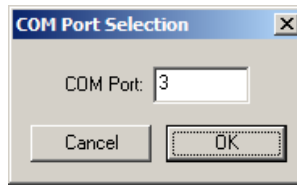

Figure 13. COM Port Selection
3. Once the COM port has been determined, press the "Select COM Port (COM_)" option in the Compass application. Enter the correct COM port into the "COM Port Selection" window shown in Figure 13.